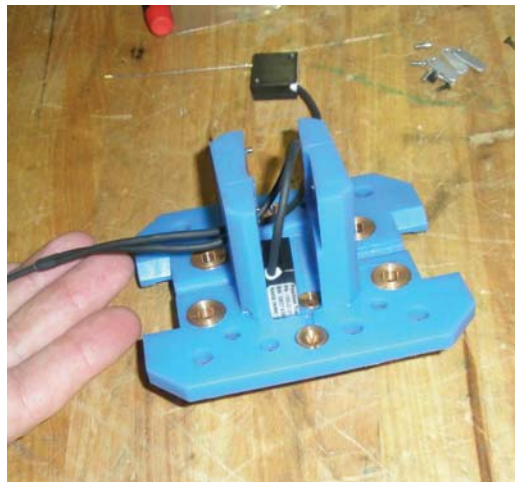
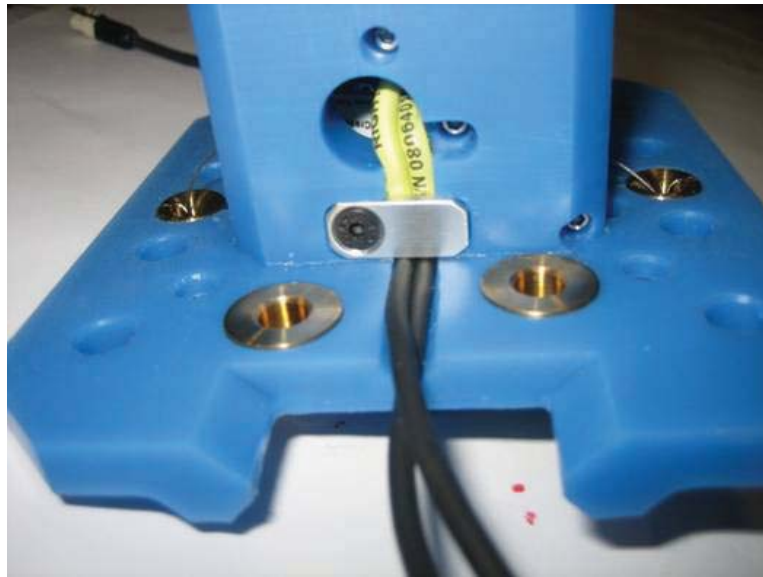

Figure 45 . Meniscus string pot assembly wire feed
Figure 47 . Meniscus wire clamp
Referring to Meniscus assembly Item 2 (133-5313) feed the connector of one of the right hand (RH) pull string pots through the inner side of one of the central holes, see Figure 45. The RH and the LH string pots can be identified from the serial number the RH has an R at the end of the number and the LH an L. The two RH pull string pots are positioned closest to the main flange of the meniscus, one is shown fitted in Figure 45. Attach the string pot with the #2-56 x ¼ long cap head screws making sure the pull wire is directed towards the furthest away outer bronze bush. Fit the other RH pull string pot in the same way on the opposite side. Pass the pull wires through their designated bushes. Carry out the same procedure with the Left hand pull string pots, the pull wires are directly in line with the two inner bushes. Feed the pull wires through the bushes. Make sure electrical wires are inside the cavity as much as possible then run cables through channels both sides and clamp with retaining plate see Figure 47. Fit assembly to knee block bottom and retain with four M5x10, low head cap screws, ensure wires are in their grooves before clamping down.